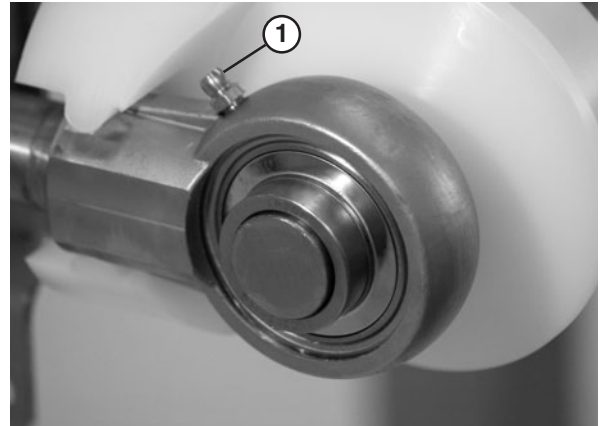

Figure 56
1. Add grease to the bearing using the zerk fitting (Figure 56, item 1) on the exterior of the bearing shaft assembly.